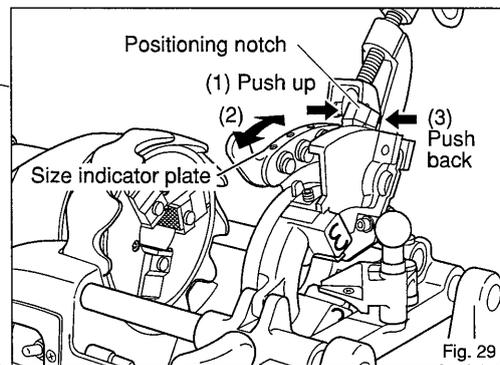

Fig. 29
To change the size: (Fig. 29)
1. Push the positioning notch in the direction of arrow (1) in Fig. 29.
3. Push the positioning notch in the direction of arrow (3), and at the same time insert the positioning pin in the notch groove.